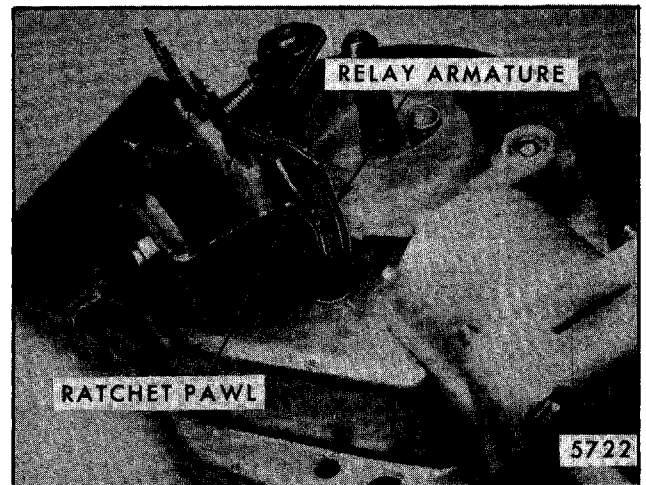

Fig. 2-140-Ratchet Pawl and Armature
Actuating the washer button to obtain windshield washer pump operation starts the wiper motor and energizes the pump relay. With the relay energized, the relay armature is pulled toward the coil, allowing the ratchet pawl to drop out of the relay armature opening and engage the teeth of the ratchet wheel. Figure 2-140 shows the pawl extending through window of relay armature.
2. The tang of the piston actuator plate is resting once more against the ramp on the lower side of the ratchet wheel (Fig. 2-140).